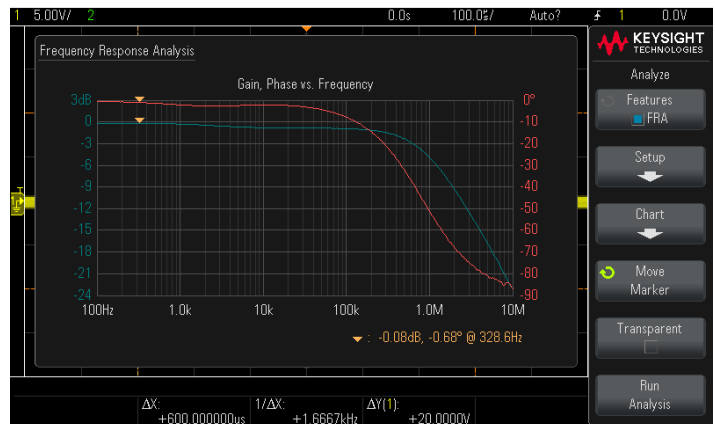

Figure 13. Displaying gain and phase data in a tabular format using a Keysight InfiniiVision 3000T, 4000, or 6000 X-Series oscilloscope.
3. Perform a frequency response test on this device with this probing configuration based on what you learned from Lab 3. The results should look similar to Figure 13.